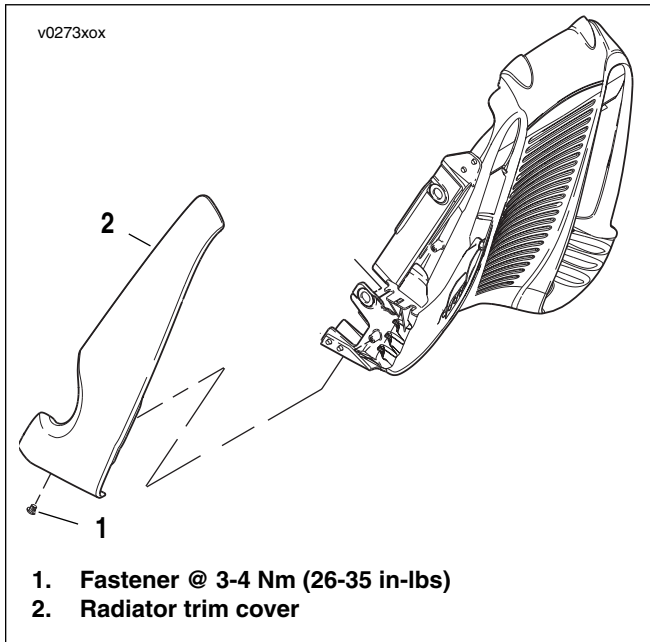

Figure 1-10. Removing Radiator Covers (VRSCA shown)
2. See Figure 1-10. Remove lower radiator side cover fastener (1) and remove gently remove cover (2) from radiator by pulling downward and out on bottom of side cover to release bottom of side cover from front radiator cover.